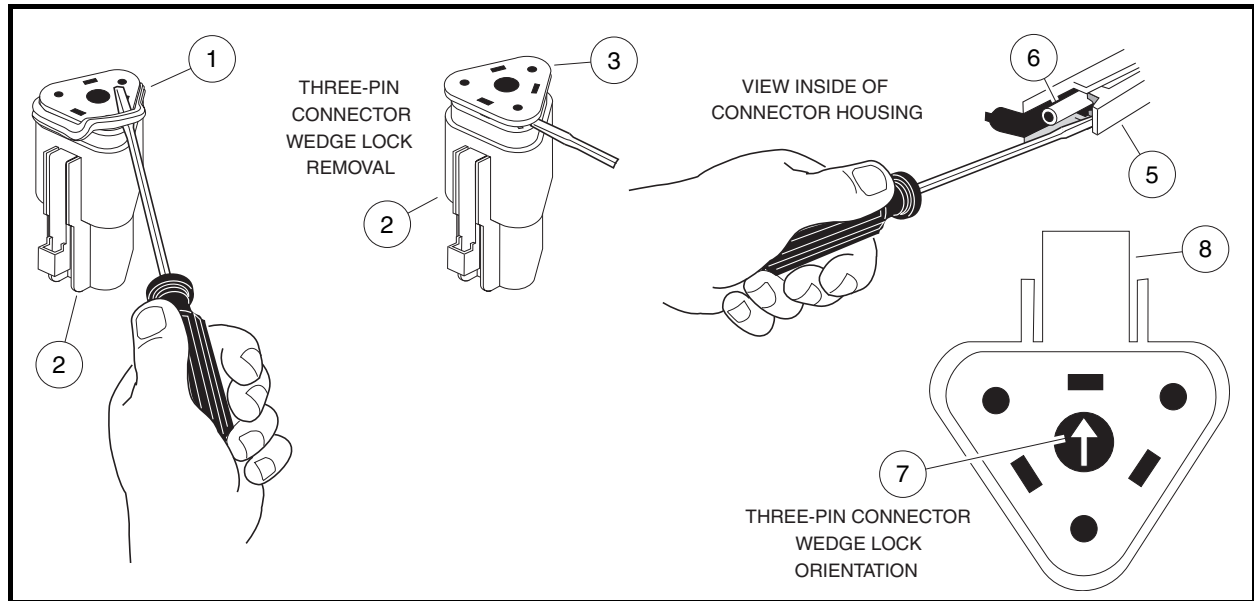

Figure 12-5 Terminal Plug Housing
4. Use an 1/8-inch (3 mm) tip flat blade screwdriver to remove the rubber gasket from the plug housing (**Figure 12-5, Page 12-7**).
5. Place the flat blade of the screwdriver against the wedge lock at the recessed area and pry wedge lock from plug housing (**Figure 12-5, Page 12-7**).
6. Insert screwdriver into terminal under the clip and gently raise the clip and pull wire from housing (**Figure 12-5, Page 12-7**).
2. If using a three-pin connector, make sure wedge lock is positioned correctly with arrow on wedge lock pointing toward housing clip (**Figure 12-5, Page 12-7**).